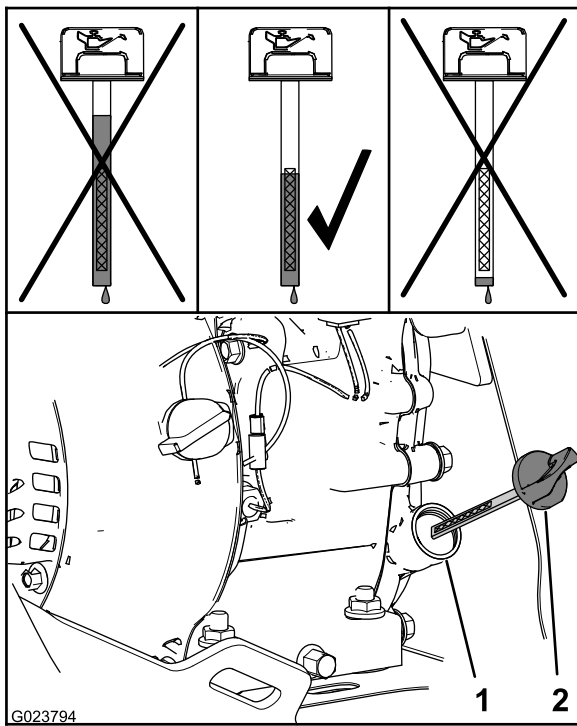

Figure 28
- Remove the dipstick and read the oil level (Figure 28).
Note: The oil level should be at top of the indicator on the dipstick (Figure 28).
- A. Pour the specified oil into the filler neck (Figure 28).